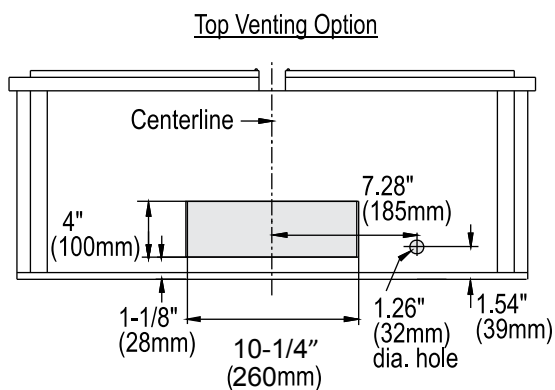
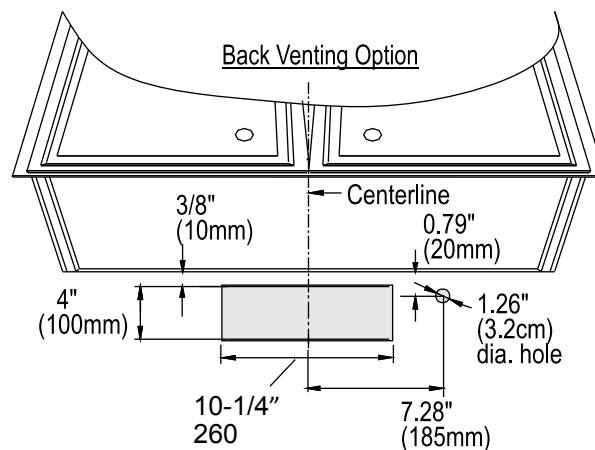

Fig.3
Fig.4
- Determine if your existing venting system is top venting or back venting, and ensure that the openings in the cabinet or wall for the damper and for power access are in appropriate locations and are of appropriate sizes, as per Fig. 3 if it is top vent or Fig. 4 if it is back vent.